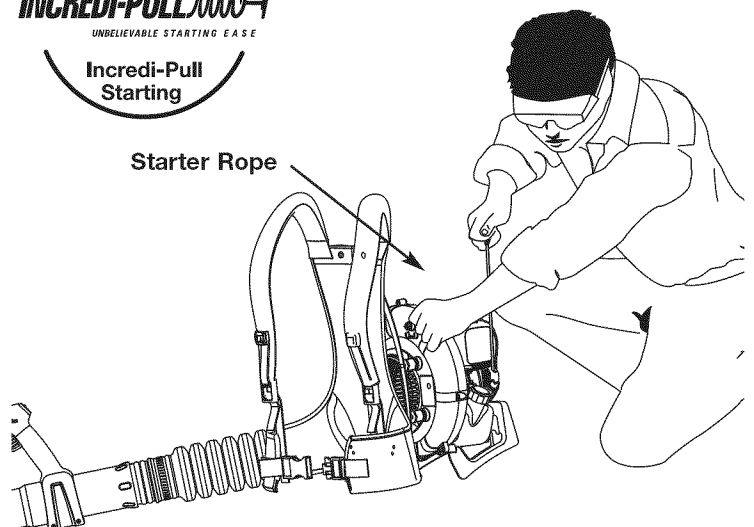

Fig. 17
**WARNING:** Avoid accidental starting. Make sure you are in the starting position when pulling the starter rope (Fig. 17). To avoid serious injury, the operator and unit must be in a stable position while starting. To avoid serious personal injury, make sure that the blower tube is locked in place or firmly installed.
5. Crouch in the starting position (Fig. 17) and pull the starter rope out until you feel some resistance. This is usually around 2–4 inches. Pull 4 times in smooth and rapid pulls.